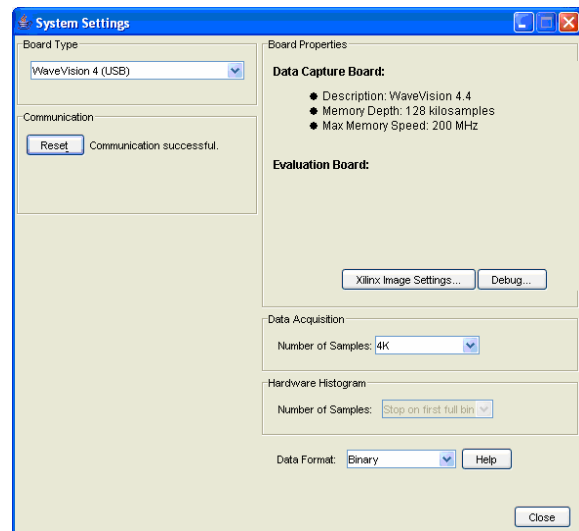

Figure 9: System Settings window
2. From the WaveVision main menu, go to Settings and then Capture Settings to open the System Settings window (*Figure 9*) and select the following:
Problem 5: The Eval Board is not recognized correctly in the System Settings Window (Figure 9). Try Solutions D and E.